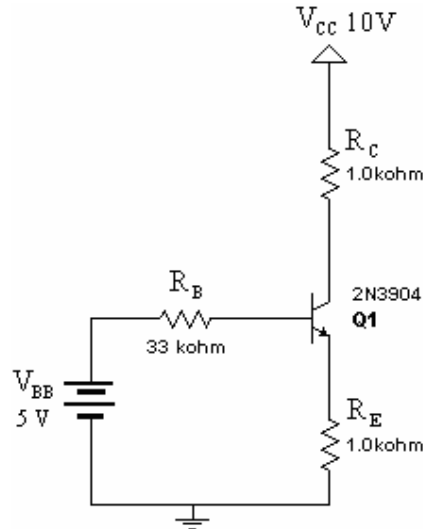

Fig.8: Biasing of NPN Transistor
1. Connect the circuit as shown in Figure 8 using NPN transistor. Switch on the power supply.
1. Calculate the DC parameters listed in Table 2 of the NPN transistor in the circuit shown in Figure 8. (Show your calculations)
2. Compare the measured values of steps from (2) to (4) with expected values obtained from Question (1), using the value of β determined in step (3) and a typical base-emitter voltage of 0.7 V. Record these values in Table 2.
4. For Part 4: Calculate the DC parameters obtained from step (14) and compare them with measured values. What is the operating mode of the NPN transistor?